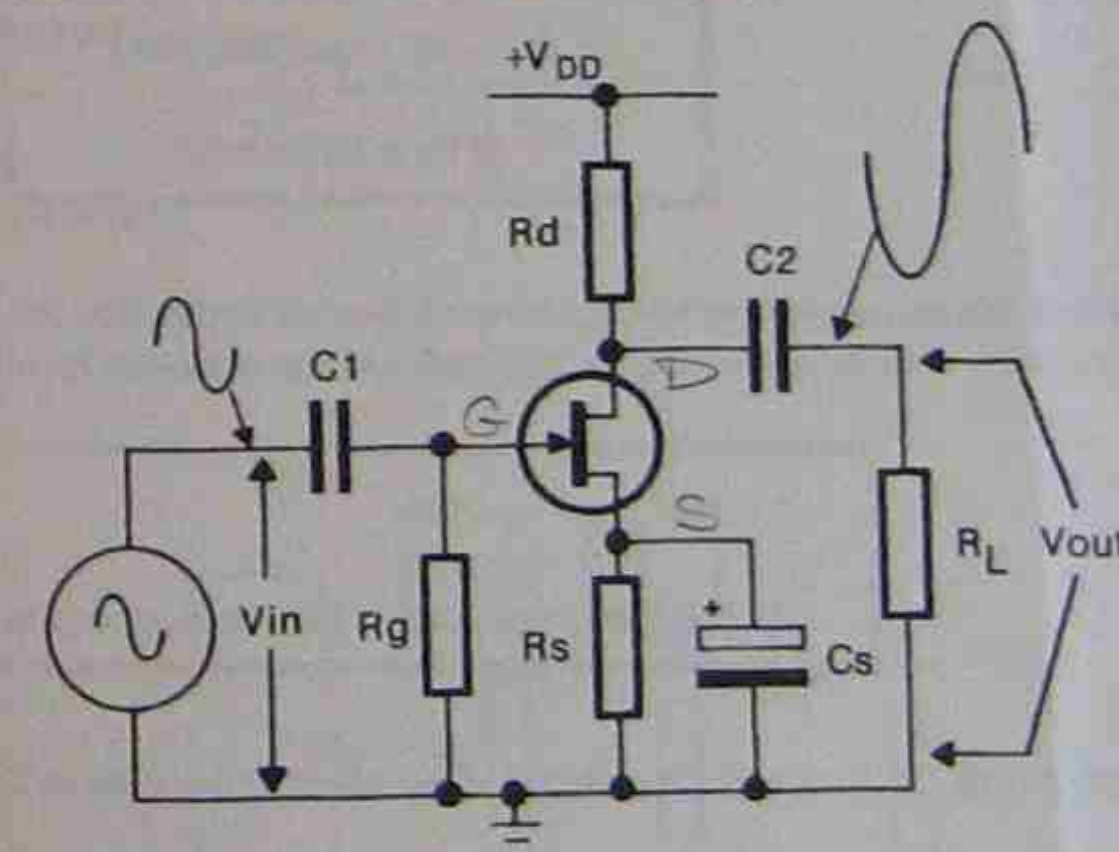

Fig.1: The JFET CS amplifier
The circuit of a JFET common source amplifier is shown in Fig.1. The DC conditions were described previously in which the gate-source junction is reverse biased by the positive voltage present at the source. The gate is at ground potential and the drain terminal should have a DC voltage around half the supply voltage.
- In Fig. 1, if  $V_{in}$  increases in the positive direction, the gate voltage will rise. The source voltage remains constant at a predetermined positive value as  $C_s$  bypasses any AC component. Because of this, the voltage difference between the gate and source drops, allowing more drain current to flow. This causes the voltage drop across  $R_d$  to rise and  $V_d$  drops. Thus the output signal swings in the negative direction when the input signal rises in the positive direction.